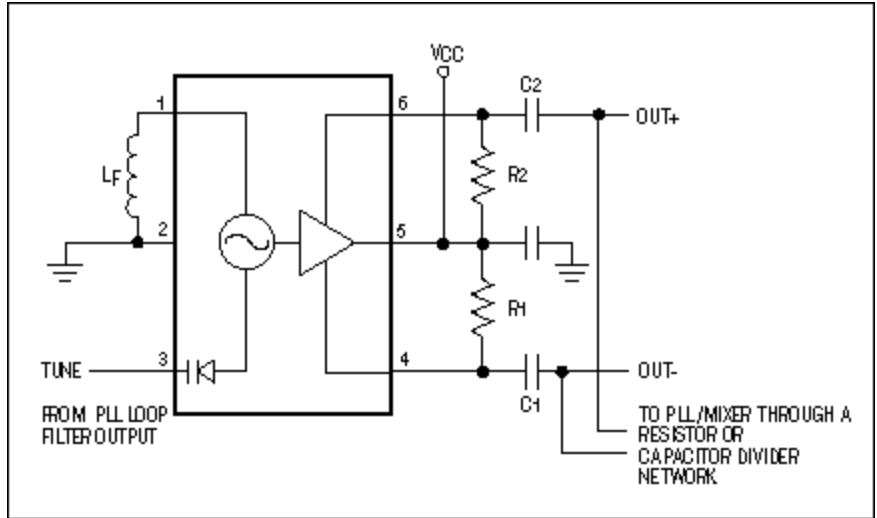

Figure 4. This simple schematic represents a typical application for the MAX2605-MAX2609 VCO IC.
2. Match the output stage resistively or reactively to the load (**Figure 4**).